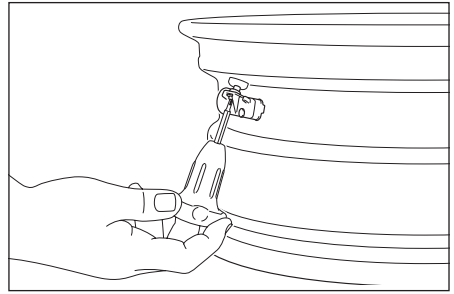

Fig. 4
- Using a standard tire valve stem tool, pull the valve stem through the hole and discard it. Use a rubber mallet or a block of wood to avoid damage to the rim. (see Fig. 4)
- Using a standard valve stem tool pull the stem straight through the hole until the valve stem is fully seated. To avoid damage to the sensor and the rim, use a rubber mallet or block of wood placed between the rim and the tool to make sure the valve is pulled straight. (see Fig. 4)